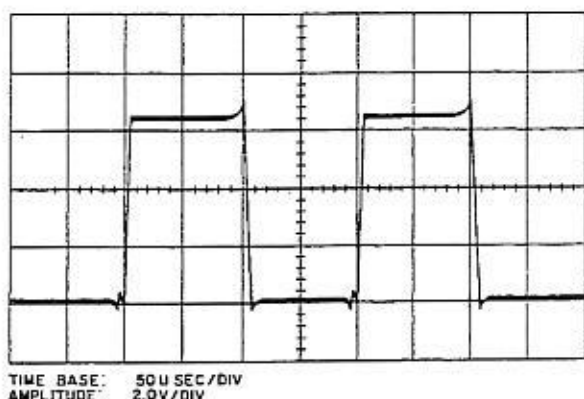

Figure 6.19 — Q11, Collector Waveform
m. Reconnect oscilloscope to collector of 5 kHz multivibrator stage Q11 (or top of R32). The observed waveform should resemble the one shown in figure 6.19.